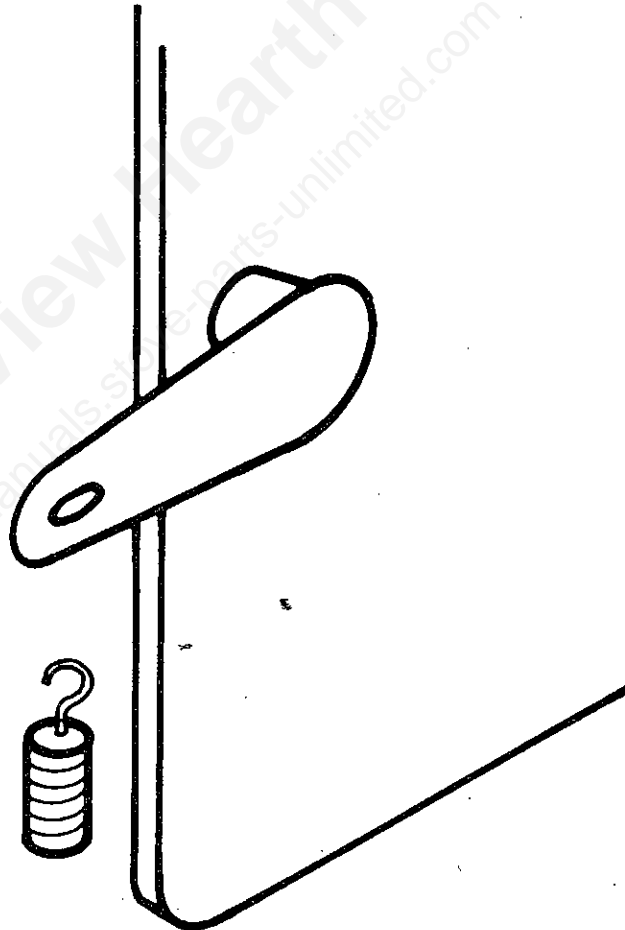

FIG. 12
2. Place the metal hook of the wooden handle through the hole in the end of the cast iron door handle. (Fig. 12).